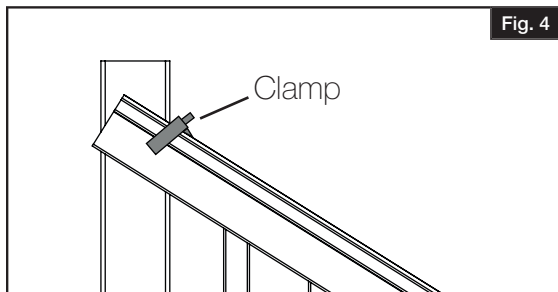

Fig. 4
- 2** Pre-drill $\frac{1}{8}$ " diameter holes in base, then fasten bracket at the determined angle (Fig. 4).
- Place assembled stair railing section adjacent to mounted stair posts, leaving equal distances from the ends of both balusters and clamp your stair railing section to the posts (Fig. 4).